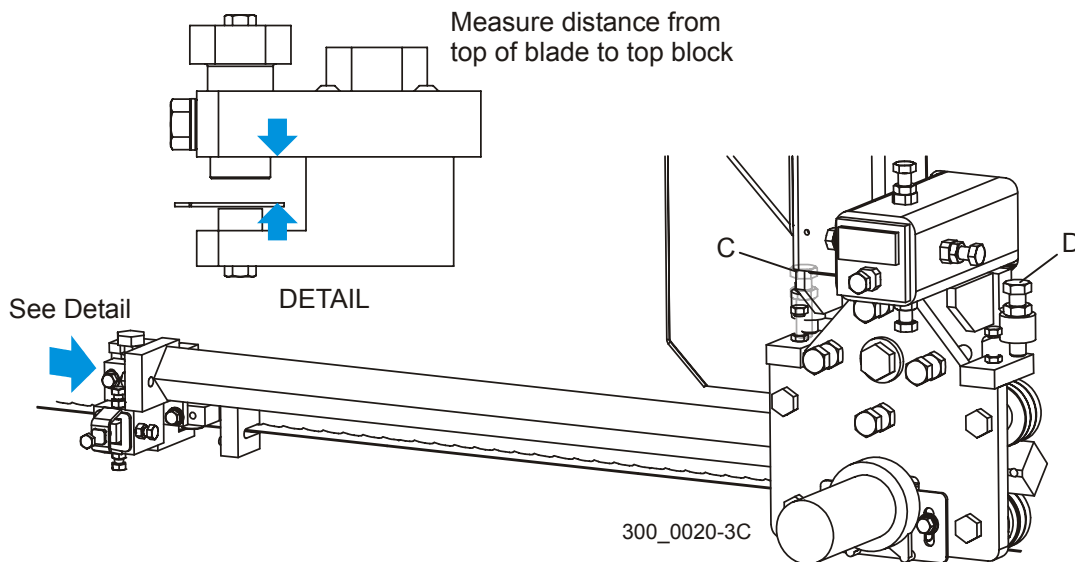

FIG. 7-24
See Figure 7-24. With the blade guide arm adjusted in near the inner blade guide, measure the distance from the top of the blade to the top blade guide block. Adjust the blade guide arm all the way out and measure again. If the two measurements are not equal with $1/32$ ", adjust the vertical tilt of the blade guide arm. To adjust the vertical tilt of the arm, adjust the bolts (C & D) on the blade guide arm mounting plate. Loosen the jam nuts. Adjust bolt (C) up and bolt (D) down to tilt the arm up. Adjust bolt (D) up and bolt (C) in to move the arm toward the blade. Recheck the distance from the blade to the top block at both ends of the arm. Readjust if necessary. Tighten the jam nuts.